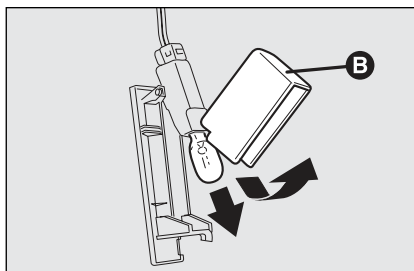

fig. 53
- ☐ open the protection **B**-fig. 53 and replace the snap-fitted bulb;